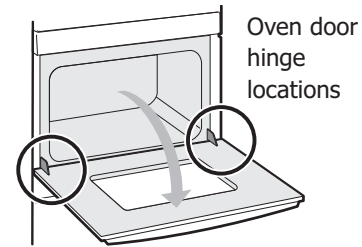

Figure 41: Door hinge location
1. Open oven door completely horizontal with floor (See Figure 41).
3. Fully open the oven door, horizontal with floor See Figure 41).